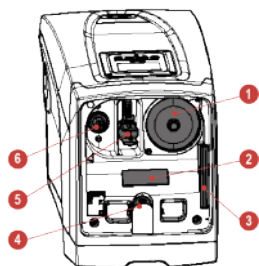

Figure 3
- Inside the technical compartment you can access (see Fig.3).
The expansion vessel is preloaded with pressurised air through the valve accessible from the technical compartment (Fig.3, point. 1). The preload value with which the expansion vessel is supplied by the manufacturer is in agreement with the parameters SP and RP set as default, and anyway it satisfies the following equation: